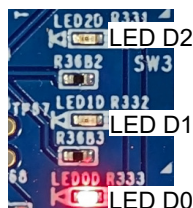

Figure 3. Error Indication
7. If LED D0 light is on as shown in Figure 3, Operating mode/Battery configuration is not matched to actual system configuration. Check SW1, SW3, and SW1B setting and actual system configuration.
8. If LED D0 light is on as shown in Figure 3, Operating mode/Battery configuration is not matched to actual system configuration. Check SW1, SW3, and SW1B setting and actual system configuration.